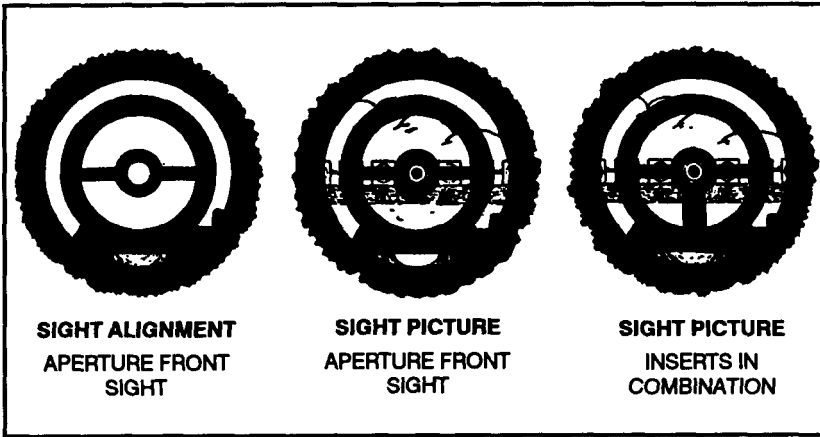

Figure 2-23. Aperture insert.
(2) The aperture insert may be either skeleton or translucent plastic (Figure 2-23, page 2-30). The skeleton aperture is the most widely used. The translucent plastic aperture is preferred by some shooters and is available in clear plastic. Both apertures are available in various sizes. A common error is selecting an aperture that is too small. Select an aperture that appears to be at least twice the diameter of the bull's-eye. An aperture selected under one light condition may, under a different light, form a halo around the bull or make the bull appear indistinct or oblong. The aperture selected should reveal a wide line of white around the bull and allow the bull to stand out in clear definition against this background.